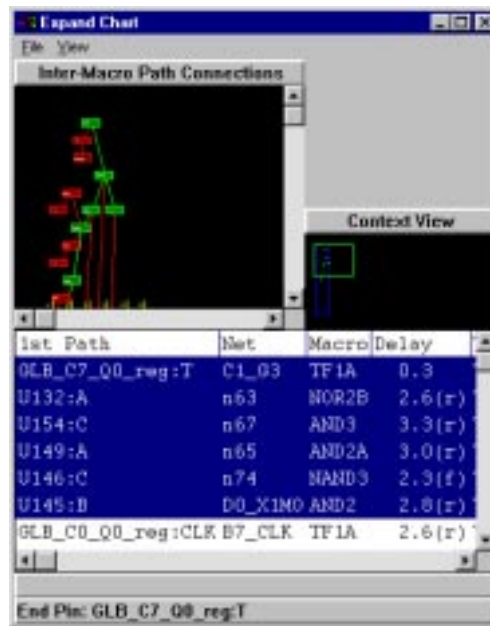

Figure 7-5. Expanded Chart Dialog Box
C. Select the Chart command from the Expand menu to view the path details (as described in step B above) and a graphical representation of the path, shown in Figure 7-5.